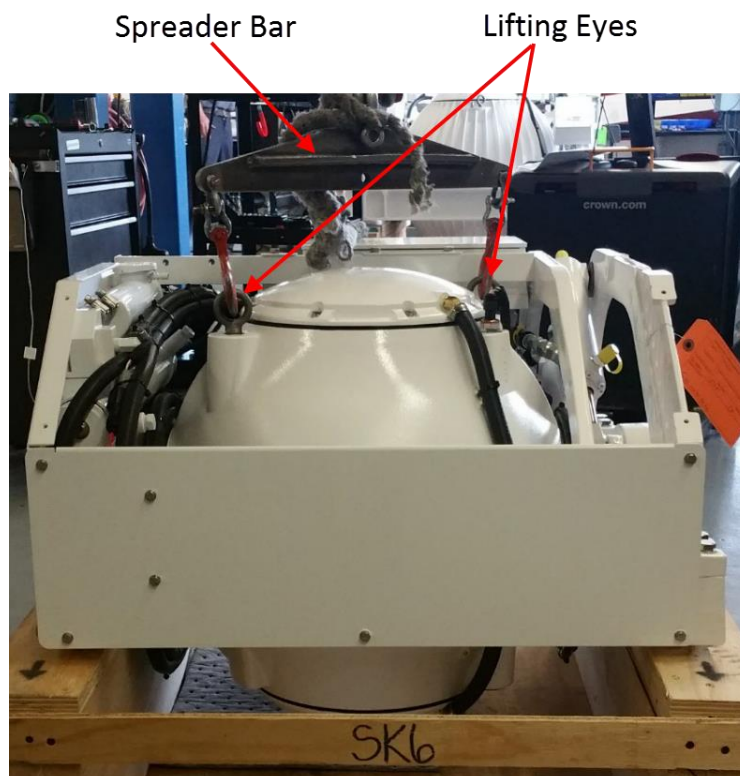

FIGURE 4 – LIFTING ARRANGEMENT
- 5) Attach spreader bar (Seakeeper # 80067) to the two lifting eyes located on the top of the Seakeeper enclosure. Stay clear of any other parts on the Seakeeper. The Seakeeper 6 weighs 395 kg (870 lbs). See Figure 4 below.